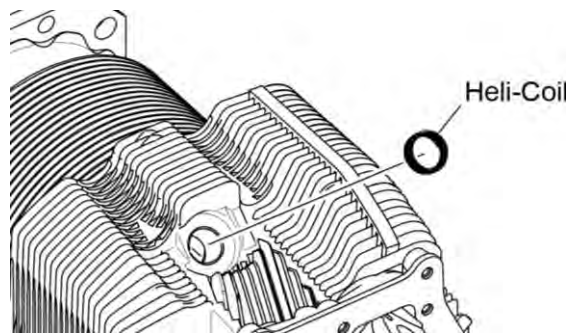

Figure 24
- A. Replace the spark plug Heli-Coil[®] insert (Figure 24) in the cylinder head if the threads in the spark plug hole in the cylinder are damaged (usually occurs when hard carbon on the end of the spark plug causes the insert to unwind during spark plug removal).
- (1) Disable all power to the engine to prevent propeller rotation and engine start. Disconnect ignition leads from all spark plugs.
- (2) If not already done, remove and discard the Heli-Coil® insert from the spark plug hole.
- (3) Apply a coat of grease liberally to the oversize tap 64596-1.
- (4) If the Heli-Coil® insert is replaced while the cylinder is installed on the engine, take precautions to prevent metal shavings from falling into the combustion chamber.
- (5) Turn the crankshaft to the start of the compression stroke.
- (6) Put 8 ft. (2.4 m) of 3/8 in. (9.5 mm) nylon rope through the opposite spark plug hole.
- (7) Turn the crankshaft to force the rope against the bottom of the spark plug hole that is to be tapped.
- (8) Use the 0.010 in. oversize tap, No. 64596-1 to drill a larger oversize hole for the oversize insert.
- (9) Install the new oversize 0.010 in. (0.254 mm) Heli-Coil® insert (Table 1) in the spark plug hole. Refer to Figure 24.
- (10) Remove all chips and shavings to prevent contamination from foreign object debris.
- (11) Remove the rope from the spark plug hole.
- (12) Record replacement of the standard sized Heli-Coil® insert with a new oversized Heli-Coil® insert for the applicable cylinder number.